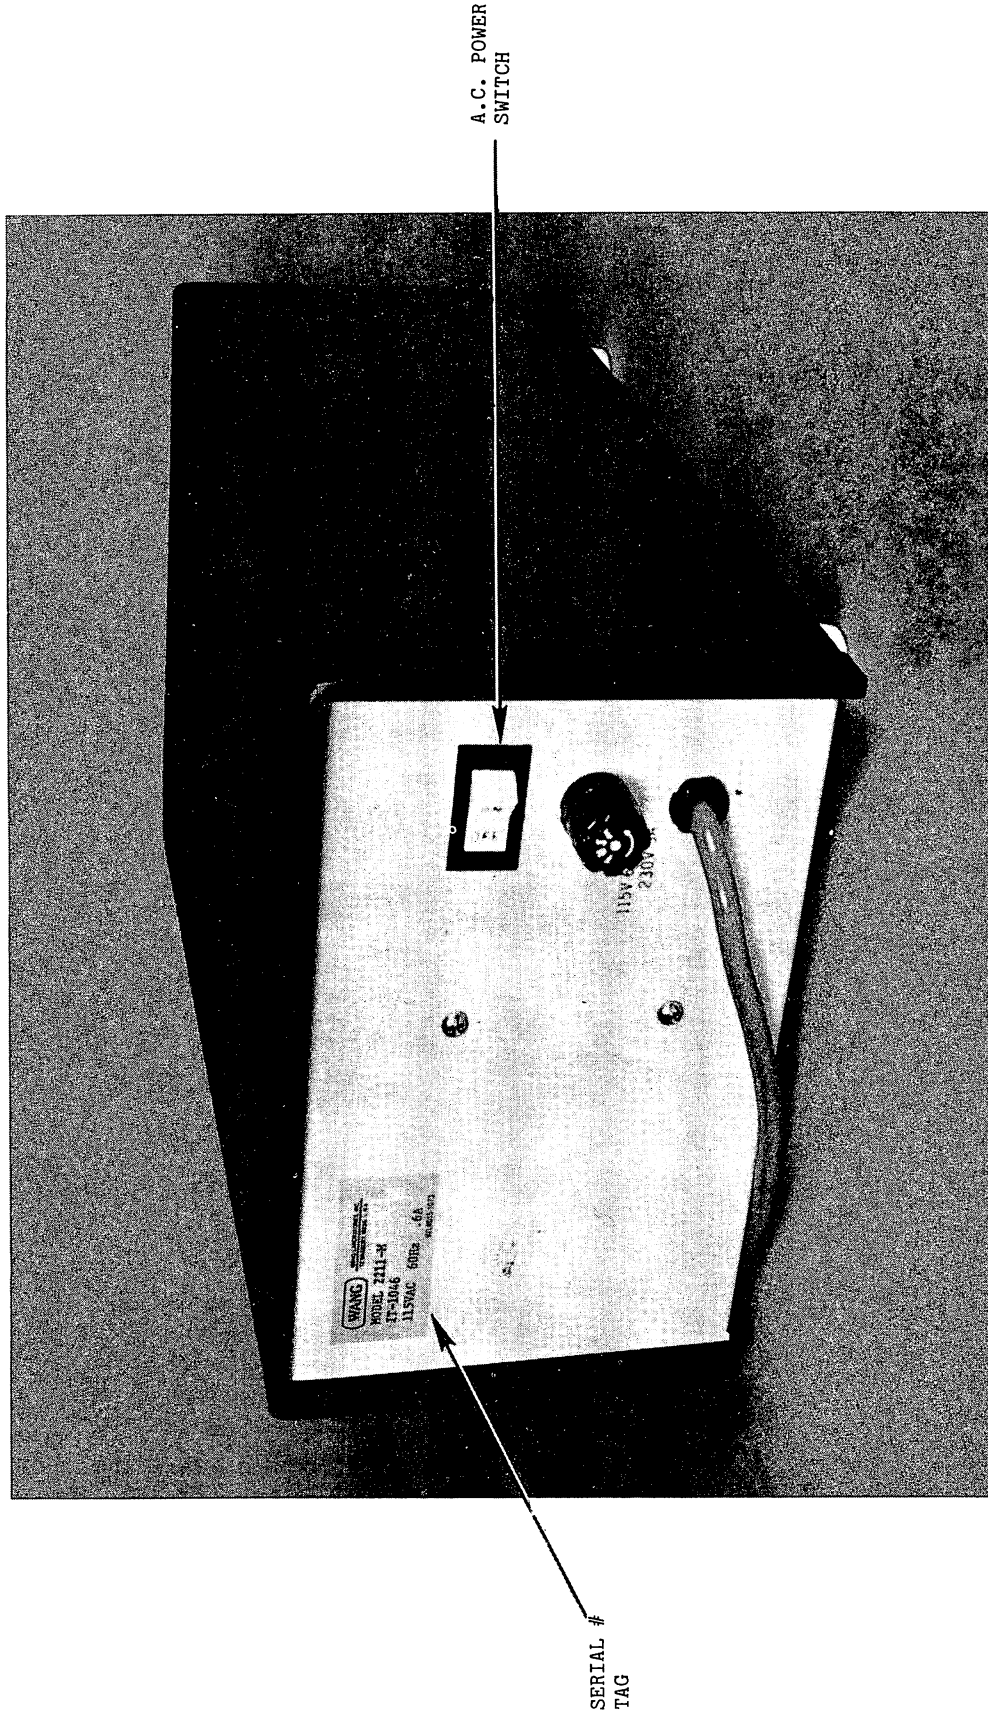
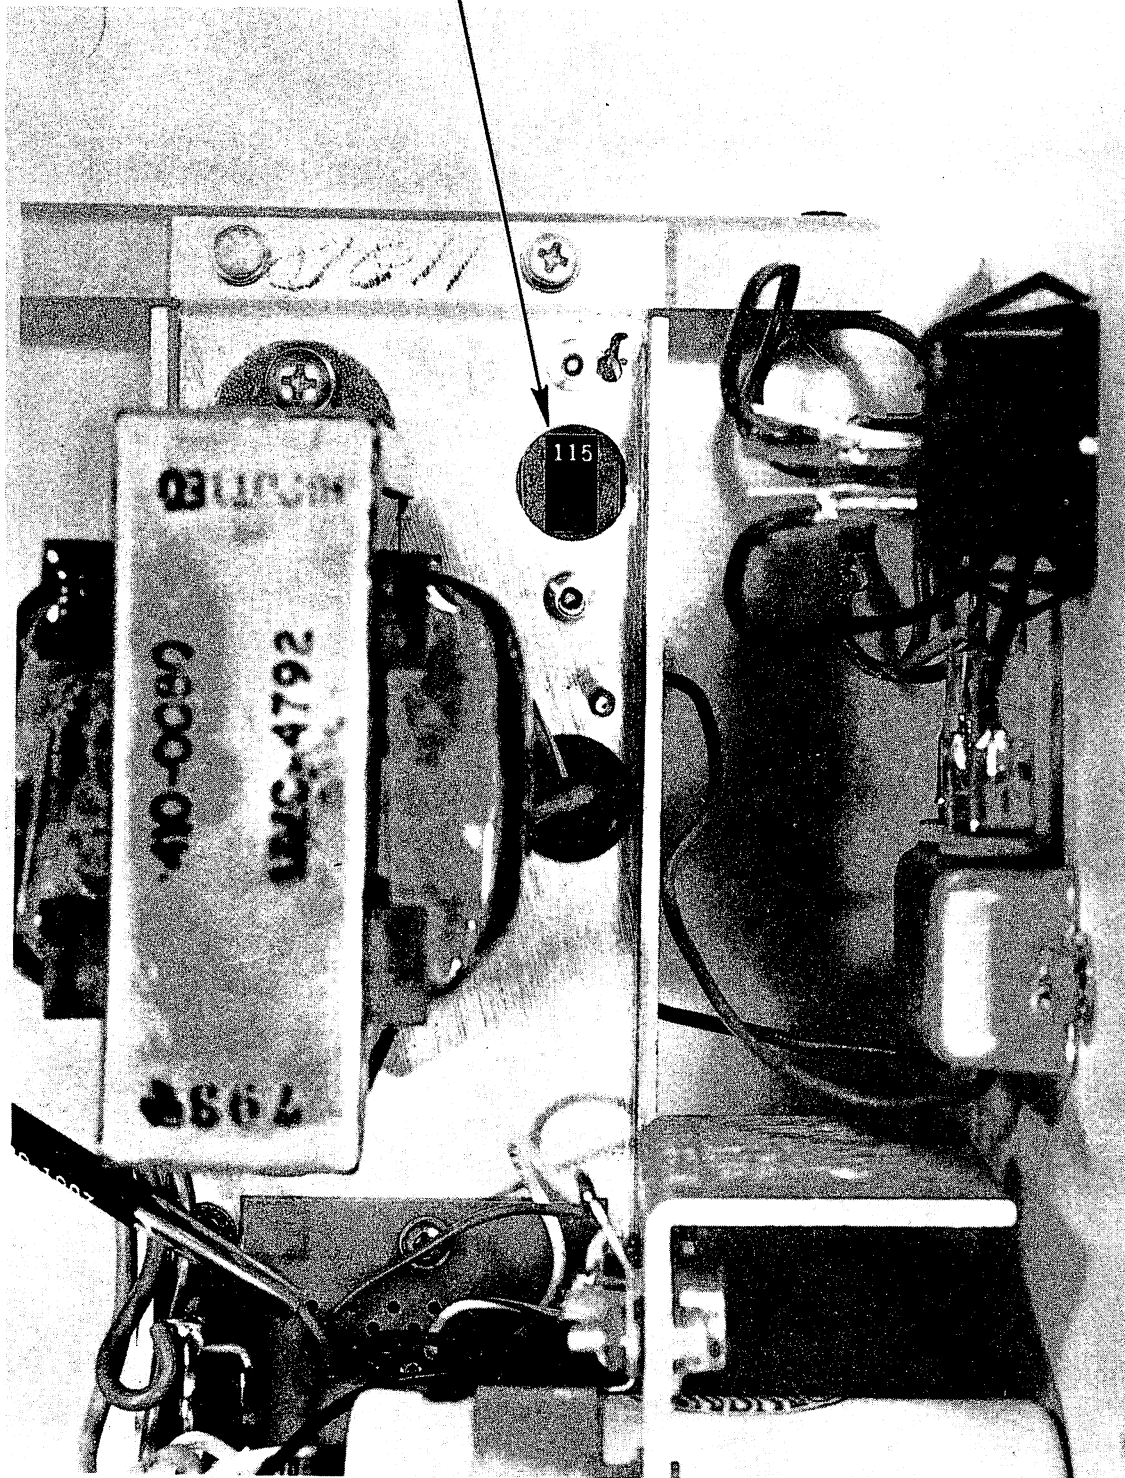

FIGURE 3-2 2211M; REAR VIEW
FIGURE 3-3 VOLTAGE-SELECT SWITCH
- B. Ensure that the ac line voltage and frequency provided at the installation site is correct for the unit. (The line voltage and frequency at which the unit is set to operate is indicated on the unit serial number tag; refer to FIGURE 3-2.) Verify that the voltage-select switch (ref: FIGURE 3-3) is set properly. Verify that the multiplexer ac power ON/OFF switch is in the OFF position. The ac power cord may now be plugged in.
- C. Place the ac power switch (ref: FIGURE 3-2) to the ON position. The POWER indicator and the channel #1 (CH 1) indicator on the front panel should light.